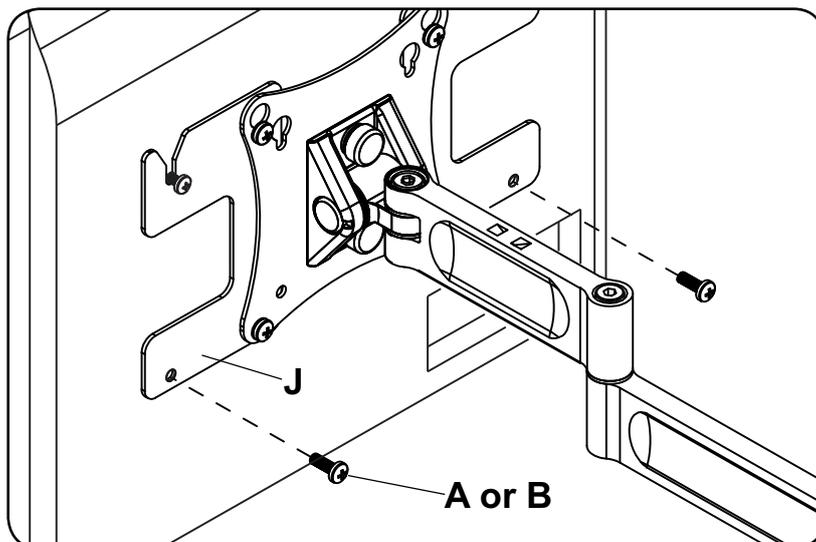

fig. 5.1
- 5** Insert two M4 screws (A or B) through bottom holes of adapter plates (J) as shown in figure 5.1.